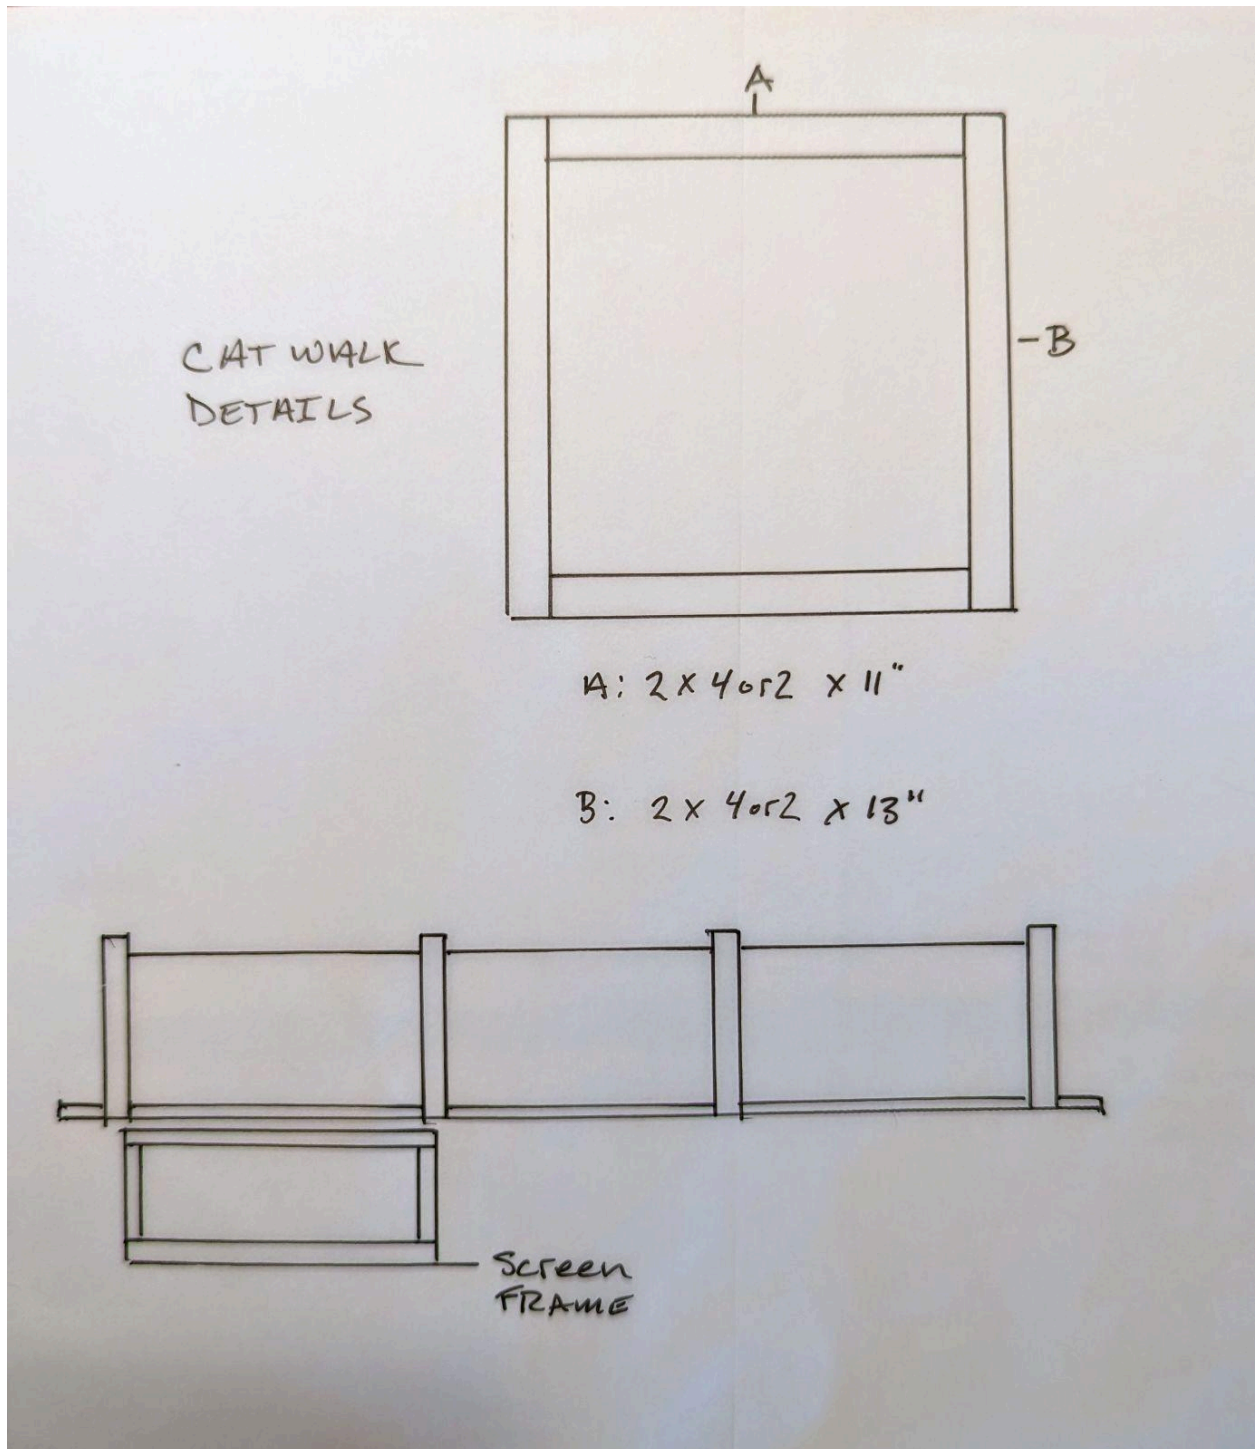

Figure 15
Step 7: Assemble the Catwalk (See Figure 15 Below)